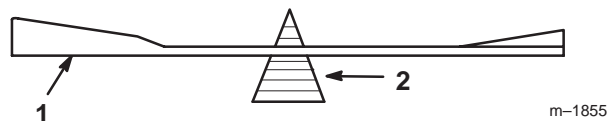
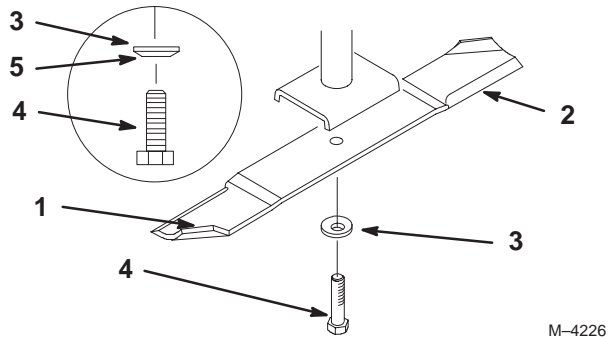

Figure 28
Figure 29
1. Hold the blade end using a rag or thickly-padded glove. Remove the blade bolt, spring disk and blade from the spindle shaft (Fig. 29).
2. Check the balance of the blade by putting it on a blade balancer (Fig. 28). If the blade stays in a horizontal position, the blade is balanced and can be used. If the blade is not balanced, file some metal off the end of the sail area only (Fig. 29). Repeat this procedure until the blade is balanced.
1. Install the blade onto the spindle shaft (Fig. 29).
2. Install the spring disk and blade bolt (Fig. 29). **Torque the blade bolt to 85–110 ft-lb (115–150 N•m).**